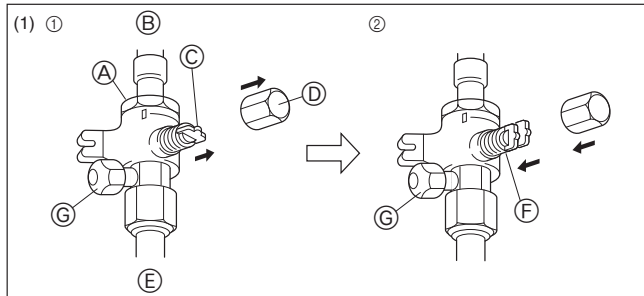
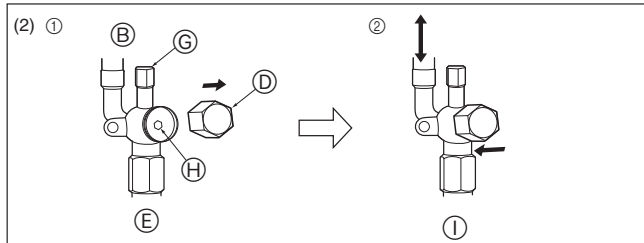

Fig. 4-6
Fig. 4-7
- (1) Gas side (Fig. 4-6)
- ① Remove the cap, pull the handle toward you and rotate 1/4 turn in a counterclockwise direction to open.
- ② Make sure that the stop valve is open completely, push in the handle and rotate the cap back to its original position.
- (2) Liquid side (Fig. 4-7)
- ① Remove the cap and turn the valve rod counterclockwise as far as it will go with the use of a 4 mm hexagonal wrench. Stop turning when it hits the stopper. (ø6.35: Approximately 4.5 revolutions) (ø9.52: Approximately 10 revolutions)
- (A) Valve (F) Open position side